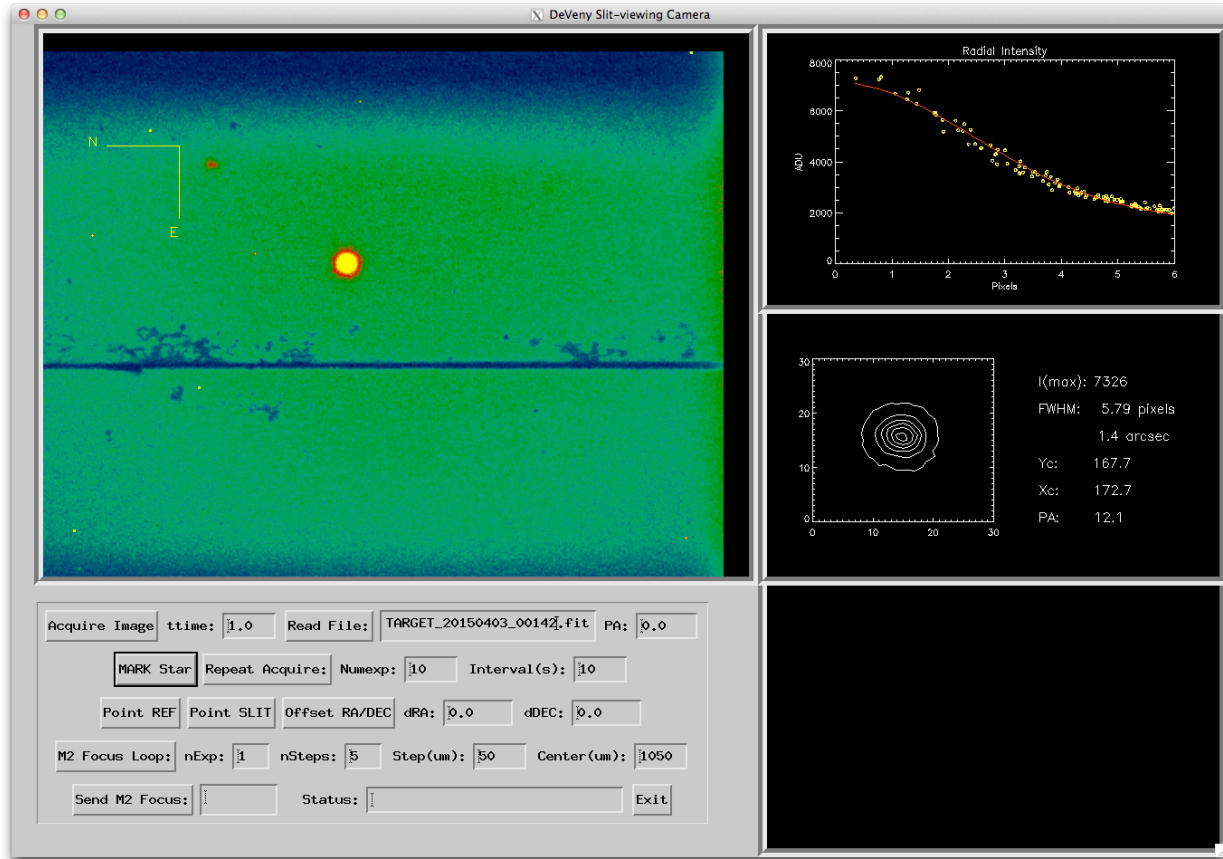

Figure 2. IDL slitview control GUI.
- iv. At the idl prompt: type ‘slitviewg’. This launches the slit viewing camera top level control GUI (figure 2).